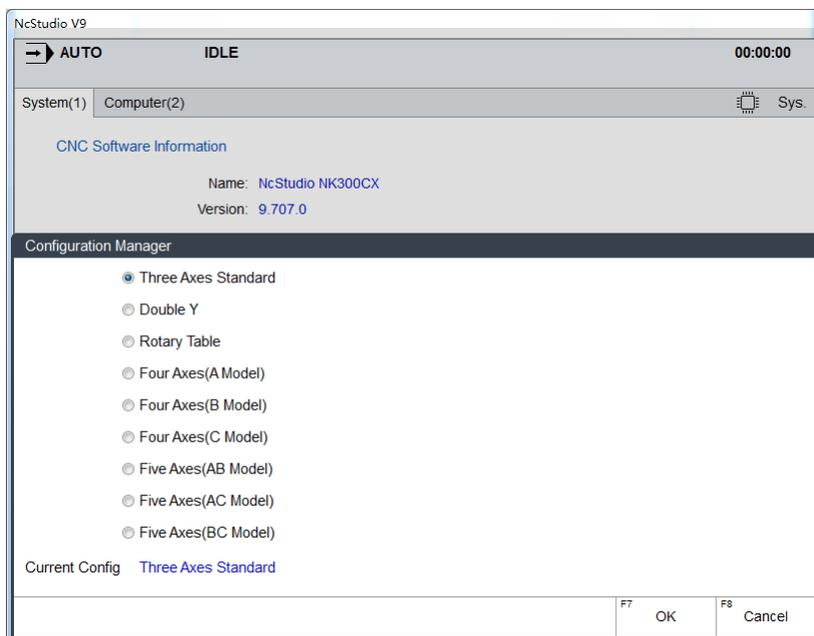

Fig. 3-79 Dialog Box [Configuration Manager]
(1) ] , the prompt box popping up is about manufacturer access detection. You can verify your access by entering your manufacturer password. Once your access is verified, dialog box [Configuration Manager] will pop up. You can select the configuration in the box according to your needs. The current configuration is shown in blue at the bottom of the box. See Fig. 3-79.